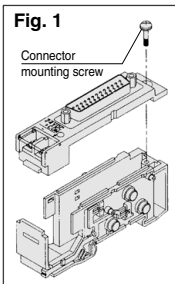

Fig. 1
- 3** Separate the connector block assembly in the same manner as (2), and remove the connector mounting screw shown in Fig. 1.